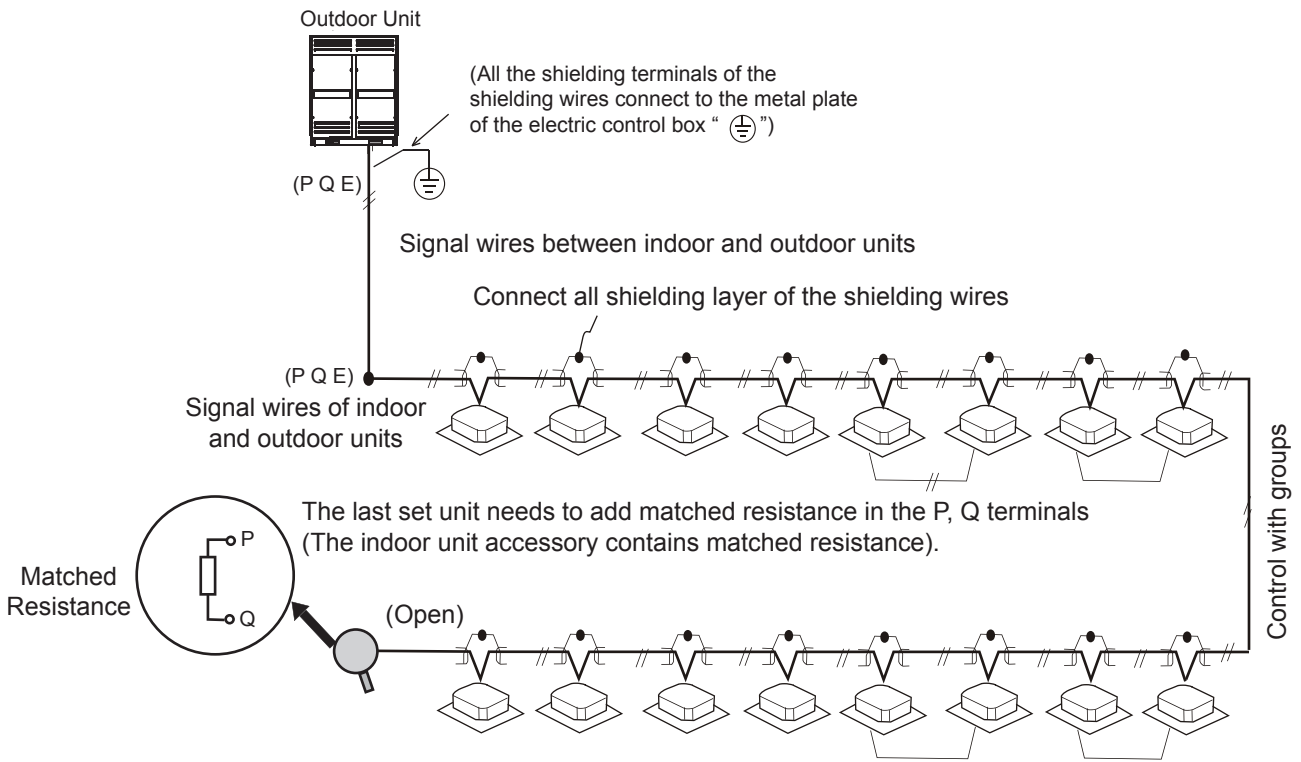

Fig.7-1
- 2) Inter-connect all the shielding nets of shielding line, and at last be together connect to the metal plate grounding "⊕" (refers to Fig.7-1).